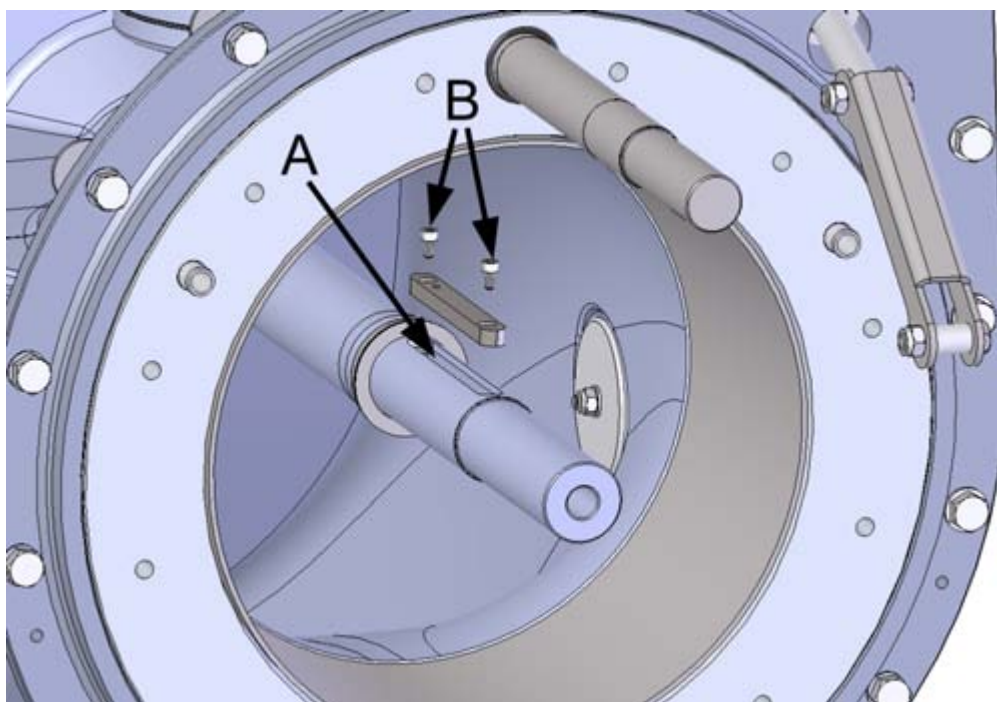

Figure 30. Key seat
5. When you find the right sleeve length, place the key in the key seat (figure 30, point A), tighten the screws (2 pcs, figure 30, point B) and push the impeller on the shaft against the sleeve.